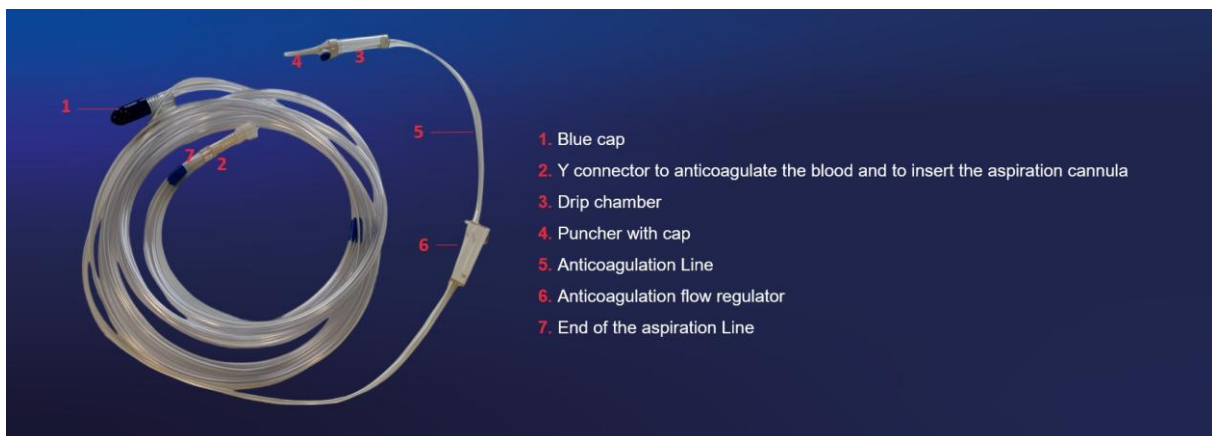

Figure 99: i-SEP aspiration and anticoagulation line
The suction line then looks like this (See Figure 99).
- Remove the blue protective cap (Figure 99, Legend 1) on the large-diameter tube from the Aspiration Line.
Remove the protective cap from the white inner seal positioned at the end of the Anticoagulation Line (Figure 99, Legend 4).